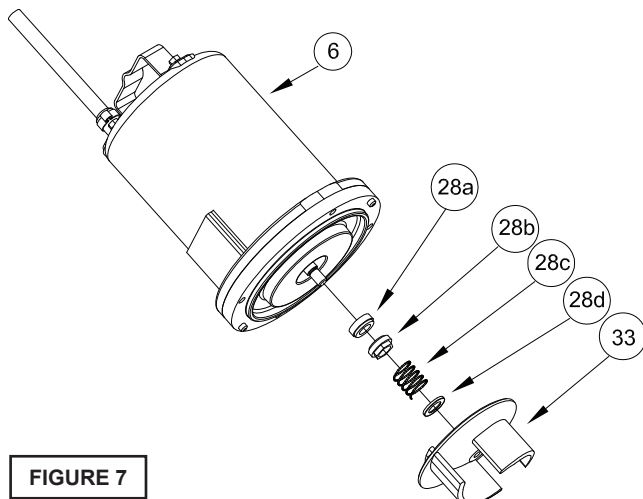

FIGURE 7
Inner Seal (DS Units Only)- To expose inner shaft seal (28) for examination, remove outer seal as outlined above. Remove socket head cap screws (64). Lift outer seal plate (29) and square-ring (27) from inner seal plate (5) see Figure 7. If further repair is required, remove snap ring (32), retaining ring (28d), spring (28c) and rotating member (28b) from shaft. Examine as outlined in outer seal paragraph. If replacing seal, remove stationary (28a) by prying out with flat screwdriver.